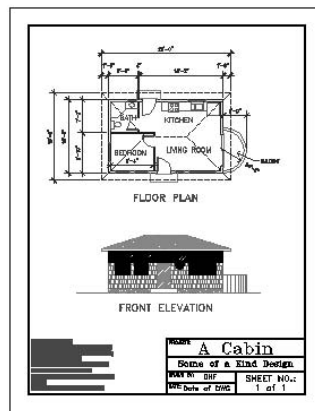

FIGURE 11.38: The full view of the cabin drawing with dimensions complete
2. Zoom to Extents, and then zoom out a little to a full view of the cabin (see Figure 11.38).